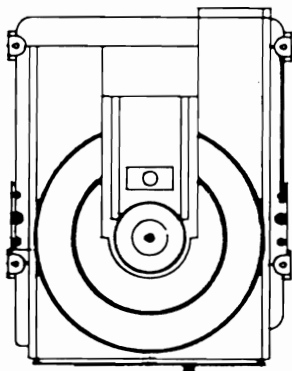

Fig. 4
- 2) Slide the bracket in the direction of the arrow (fig. 4)